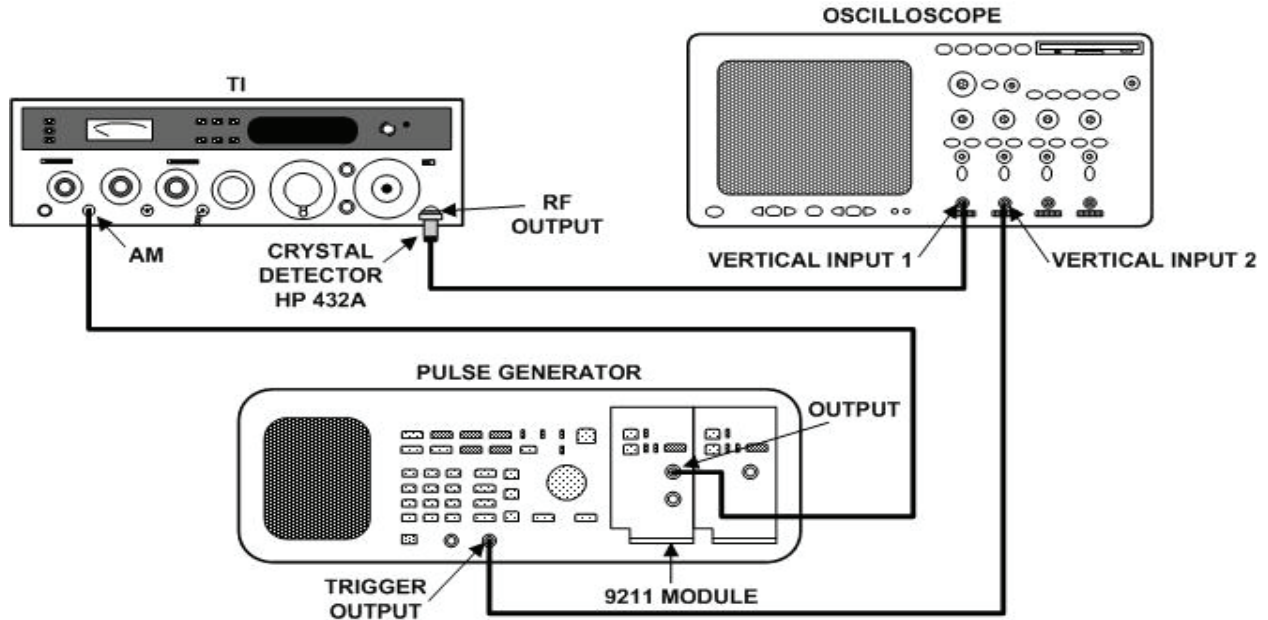

Figure 4. Doubler gain - adjustment setup.
- (31) Adjust **OUTPUT LEVEL** vernier control(s) for a 0 dB indication on TI meter.
- (32) Connect equipment as shown in figure 4.